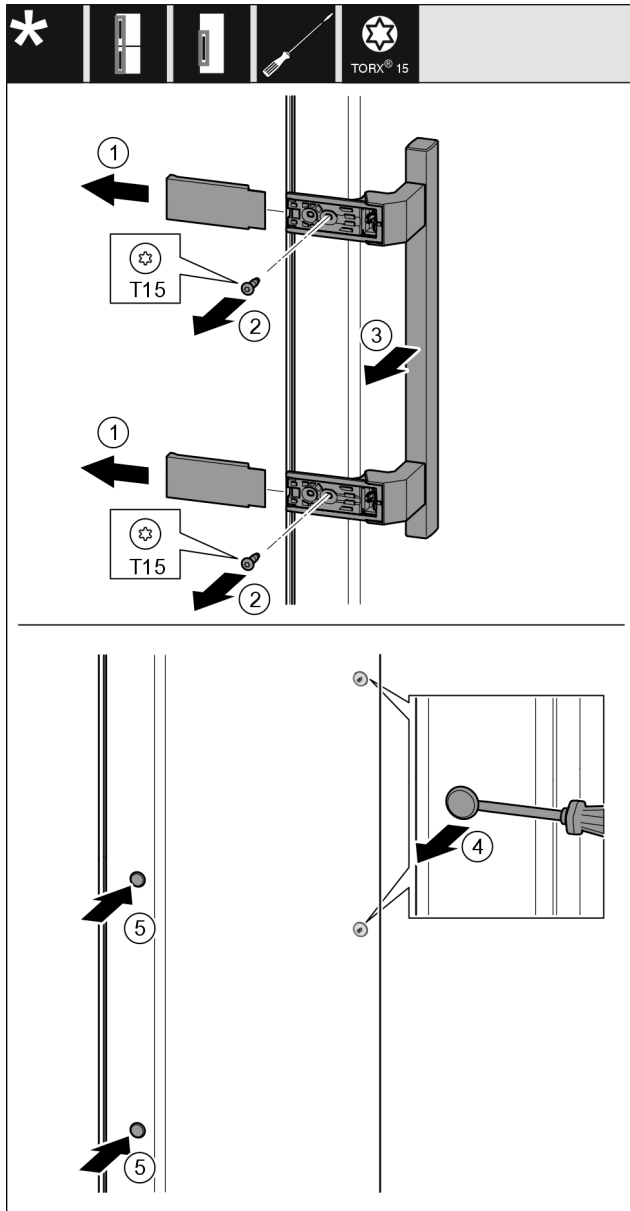

Fig. 24
- Remove the cover Fig. 24 (1).
- Unscrew screws Fig. 24 (2) with screwdriver.
- Remove the handle Fig. 24 (3).
- Use a slotted screwdriver to lift the side plug Fig. 24 (4) carefully and pull it out.
- Re-insert the plug Fig. 24 (5) on the other side.